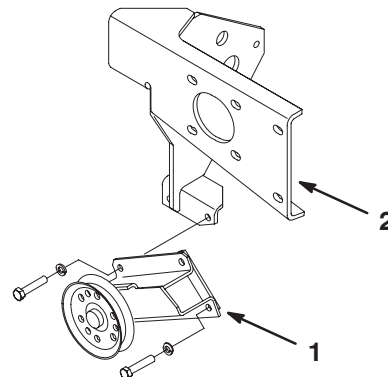

Figure 2
9. Remove the fasteners securing the fan belt idler pulley bracket to the fan support and to the engine. Remove and discard the bracket and the fasteners (Fig. 2).